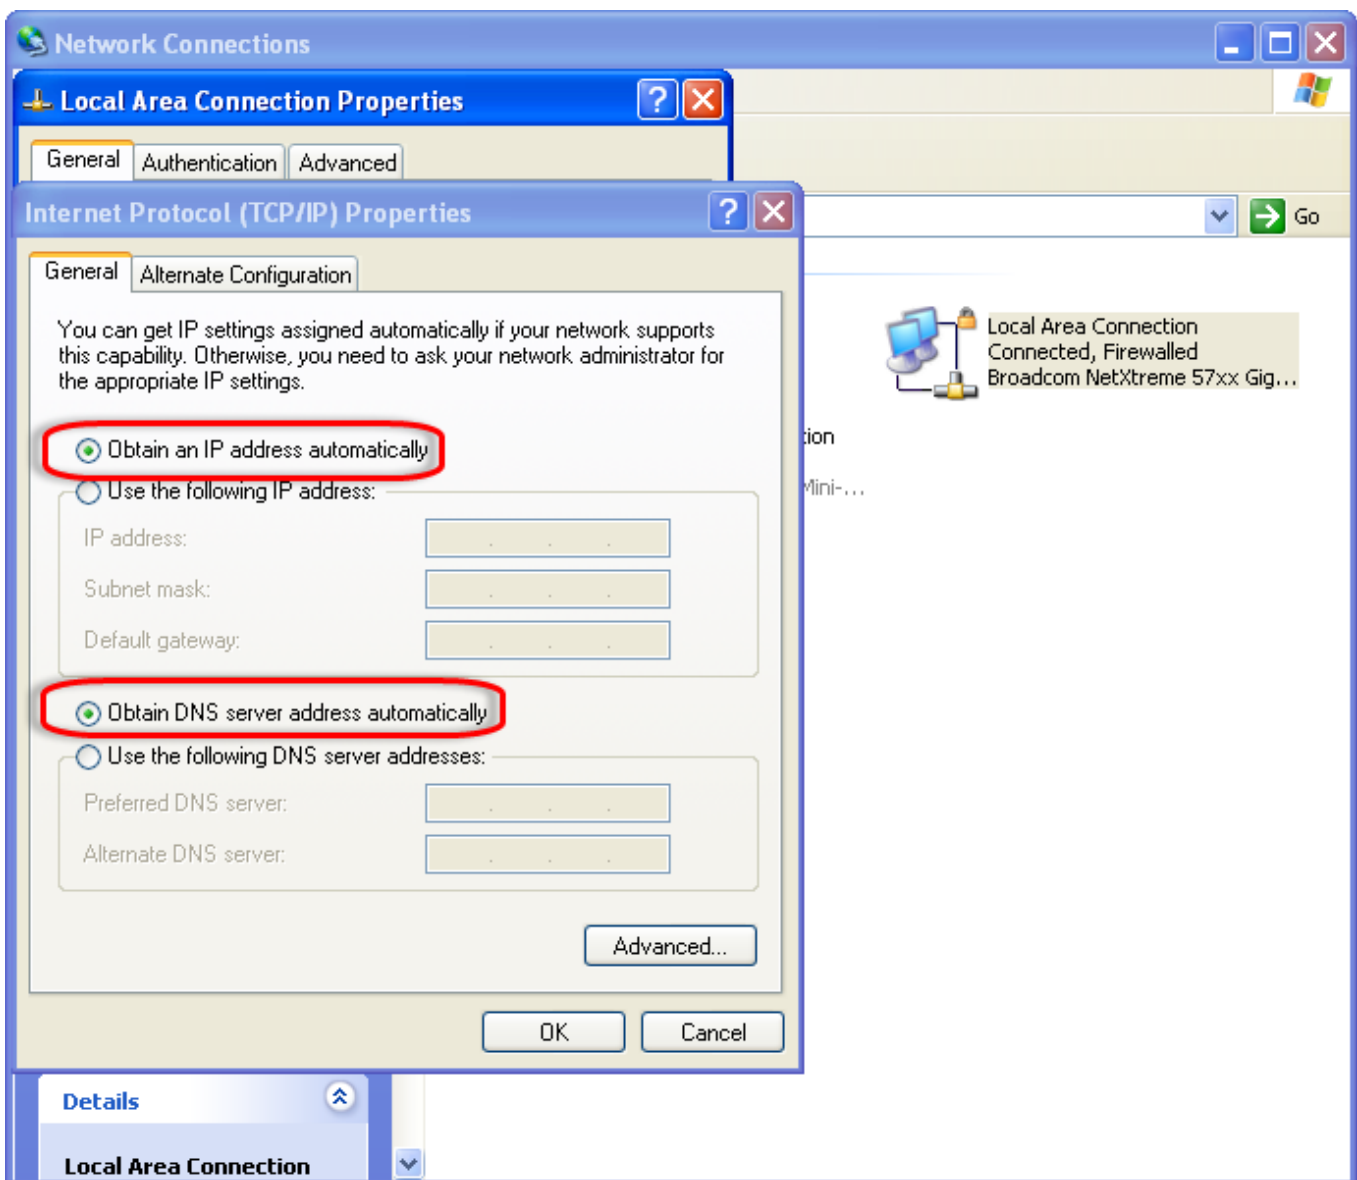

Figure 3-3 Wired access to WebOMT of Slave AU and EU-E
2. Change the TCP/IP properties (see Figure 3-3):